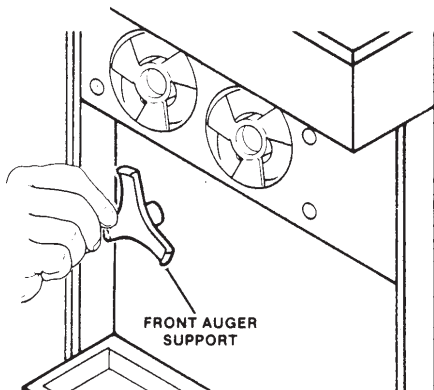

Figure 23. Removing Auger Supports
- D. Remove the front auger supports and bearings (Fig. 23).